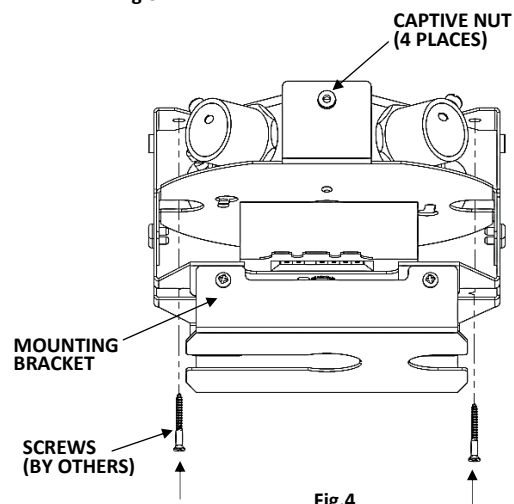

Fig.4
J-BOX. Fig.4
- Attach BALL to STEM as shown in Fig. 4.